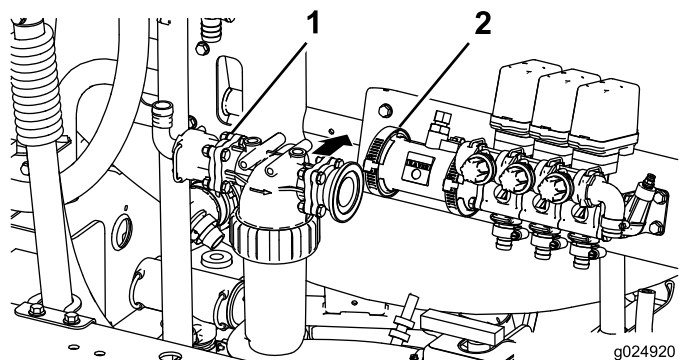

Figure 23
2. Remove the existing clamp, fitting and hoses located on the clamp (Figure 23).
3. Install the pressure filter assembly to the machine (Figure 23).